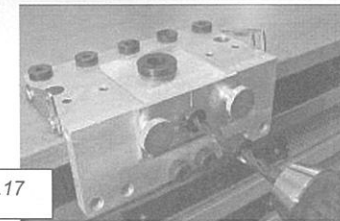

Fig.17
- 5.6. Now drill the horizontal hole with the appropriately adjusted stop ring (fig. 17).